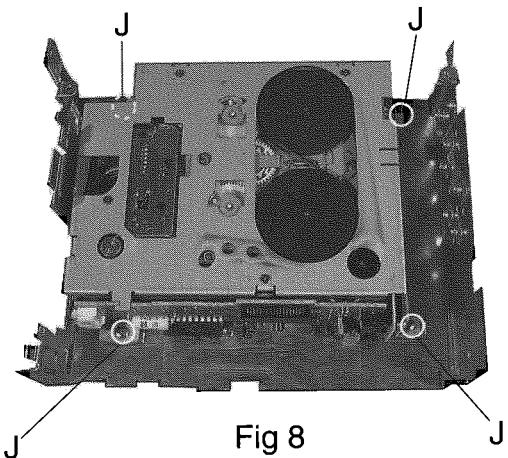

Fig 8
**■ Cassette mechanism assembly (See fig8)**